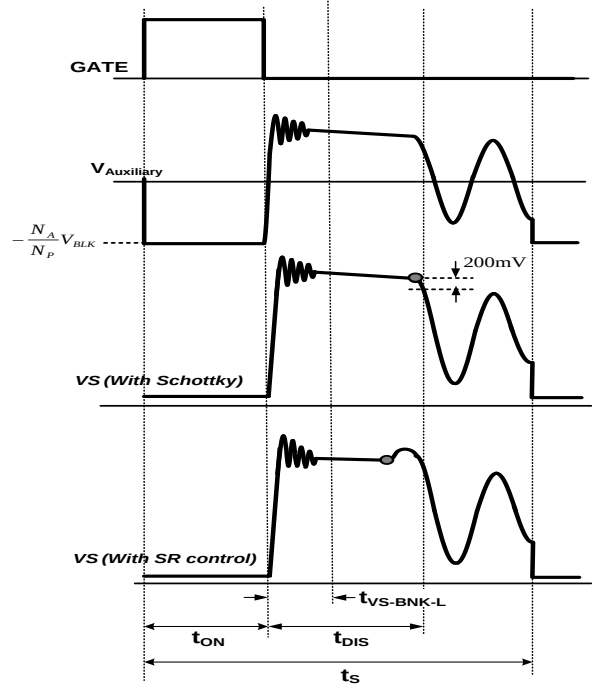

Figure 26. VS sampling with Diode or Synchronous Rectifier
VS voltage which is reflected auxiliary winding and proportional to output voltage. Therefore, It is possible to regulate output voltage by sensing VS voltage. Figure 26 shown VS sampling waveform with secondary rectifier that using Schottky diode or Synchronous Rectifier (SR).
In order to regulate output voltage in accurately range, FAN105B build-in VS sampling methodology for signal like Figure 26 showed, FAN105B samples and hold VS voltage
A leading edge blanking time($t_{VS-BNK-H/L}$) start from primary switch turned off. Most of TA design have VS oscillation after primary switch turned off, that is caused by the resonance of leakage inductance and parasitic capacitance at transformer. In order to avoid VS sampling procedure get impacted by that ringing, the oscillation should be settle before settle down before $t_{VS-BNK-L}$ ended as Figure 26 showed. t_{DIS} is secondary rectifier current discharging time which recommend better design is longer than $t_{VS-BNK-H}$ during miimum on time controlling. t_{DIS} is predictable by following formula: